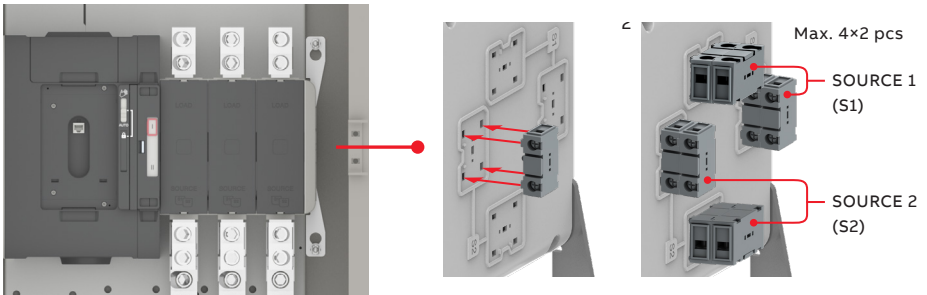

Figure 3
Auxiliary contacts will be shipped loose. Use Table 1 and Figure 3 to apply A (NO) and B (NC) contacts for correct operation. Each source has two separate mounting points capable of holding up to two aux contacts each for position indication, for a total of four per source. There is no restriction on using NO, NC, or both in any location.